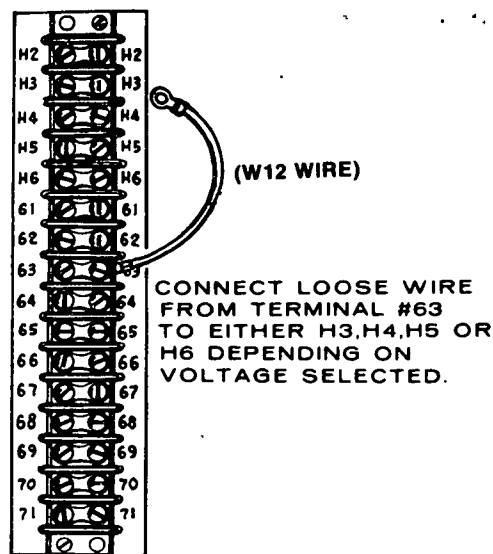

FIGURE 19. REFERENCE VOLTAGE CONNECTION (TB21)
3. Open hinged control panel doors. Connect lead from terminal 63 to correct terminal for voltage desired. These terminals are labeled H2, H3, H4, H5 and H6. See Figure 19.